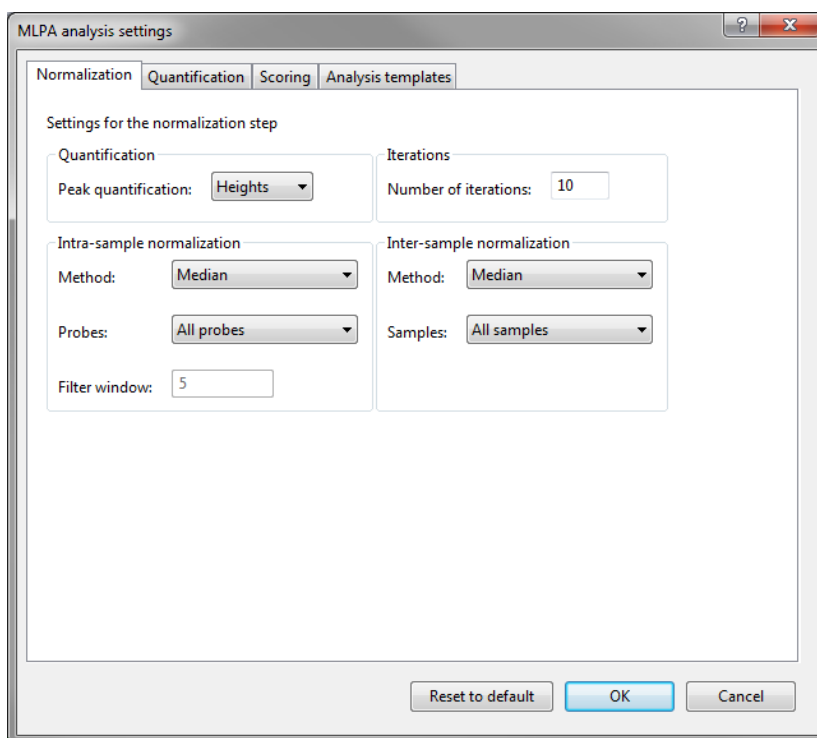

Figure 4.8: The *MLPA analysis settings* dialog box, *Normalization* tab displayed.
7.1 Select **MLPA > Settings** or press the  button to call the *MLPA analysis settings* dialog box. By default, the *Normalization* tab is displayed (see Figure 4.8).